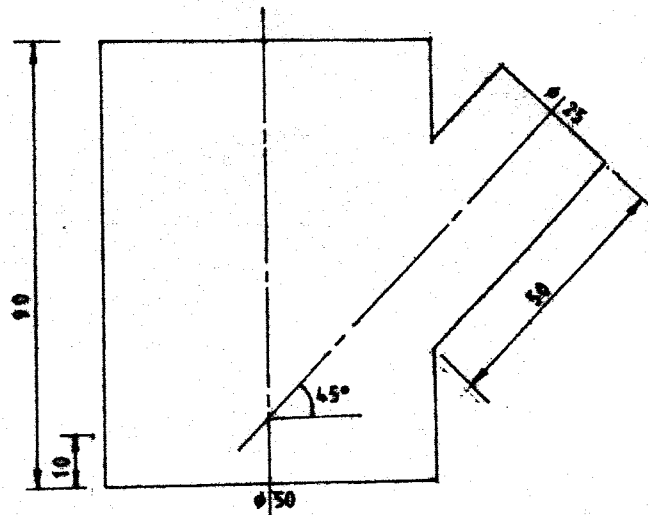

Fig. 3
3. Figure 3 shows the incomplete front elevation of two pipes which are joined together. Draw: